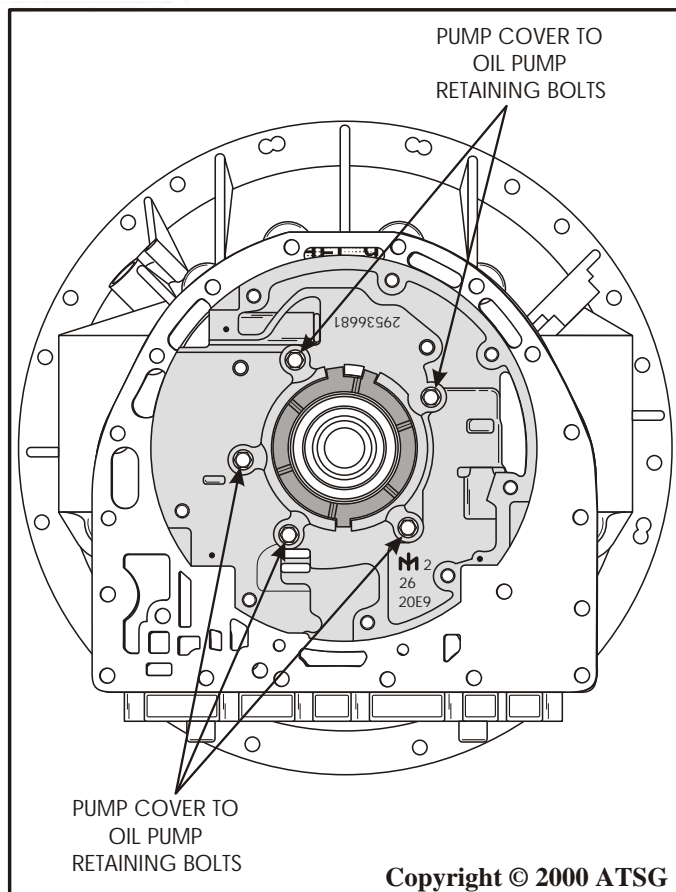
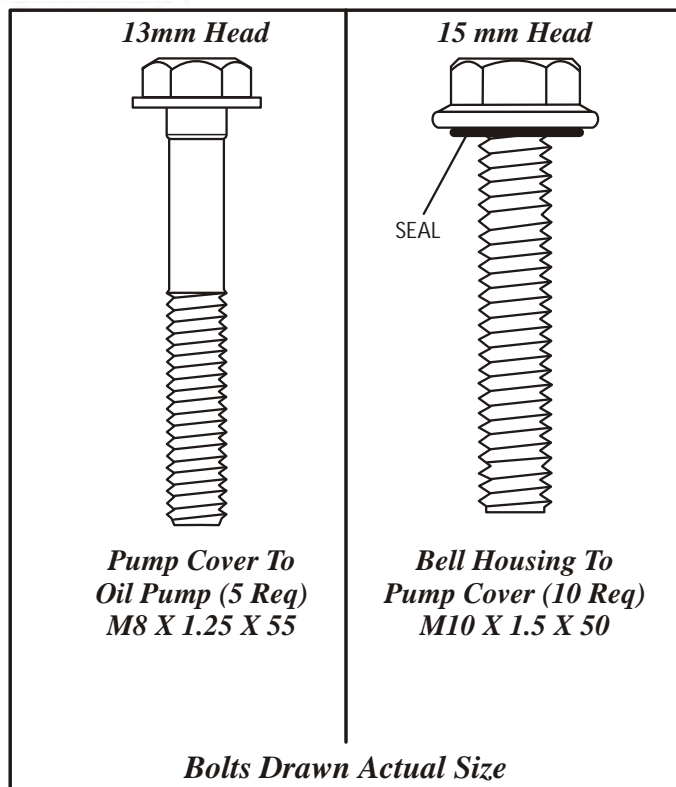
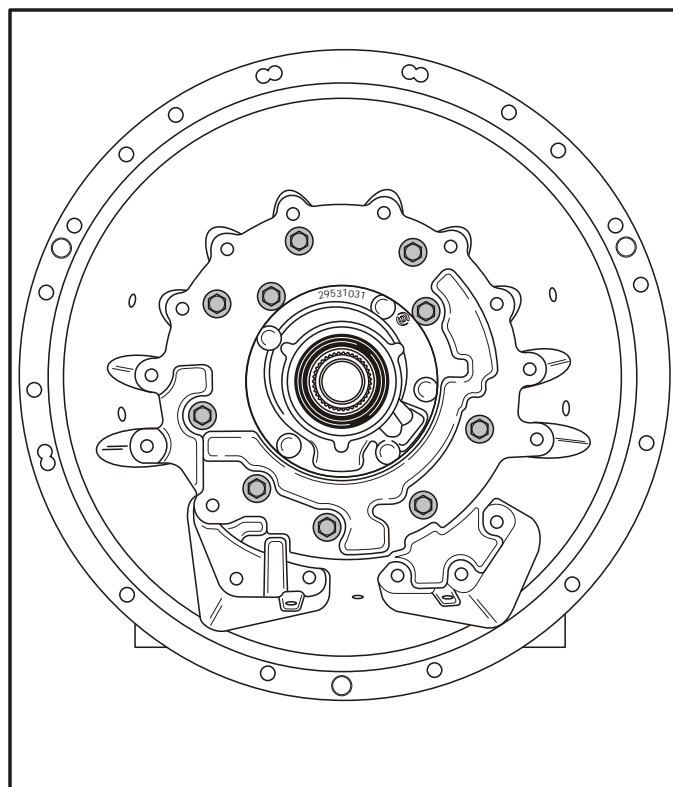

Figure 93
Figure 95
Figure 96
25. Install the 5 required pump cover to oil pump bolts, size identified in Figure 95 and location is identified in Figure 93, and torque the bolts to 27 Nm (20 ft.lb.).
27. Install the 10 required bell housing to pump cover bolts, size identified in Figure 95 and location is identified in Figure 96, and torque the bolts to 43 Nm (32 ft.lb.).
Note: Notice in Figure 95 that these 10 bolts have a required seal on the bolt. Ensure that new seals are installed.